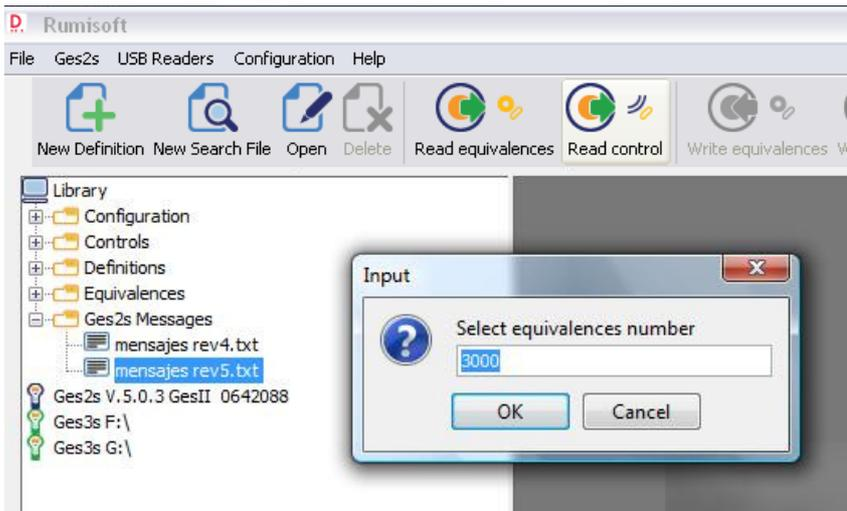

Figure 16
*Equivalences*: allows the user to change the maximum equivalences number the GES2S must keep in memory (Figure 16).